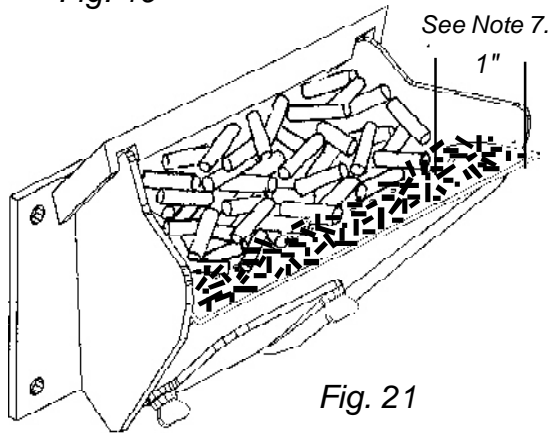

Fig. 21
7. Setting the feed adjuster # for maximum burn: With the unit burning in "AUTO", turn to "Stove Mode" and put the fan on "H". Set the Temperature Dial to #7. Allow the unit to burn for about 30 minutes and check ash on front of burn pot. Fig. 21. If the ash line is larger than 1", turn the feed adjuster from #3 to #4. Allow another 30 minutes of burn time and check again. If, at #6 setting, a 1" or less ash bed is not obtainable, it is not a problem. The 1" ash bed is only a maximum burn rate and at most normal settings the ash